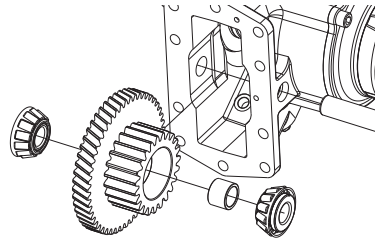

Figure 9 – Input Gear Assembly
3. The input gear sub assembly is replaced as a set which includes the gear (32), cone spacer (31) and bearings (29). Slide this sub assembly into the housing to line up the input shaft (30).
*See Figure 9*